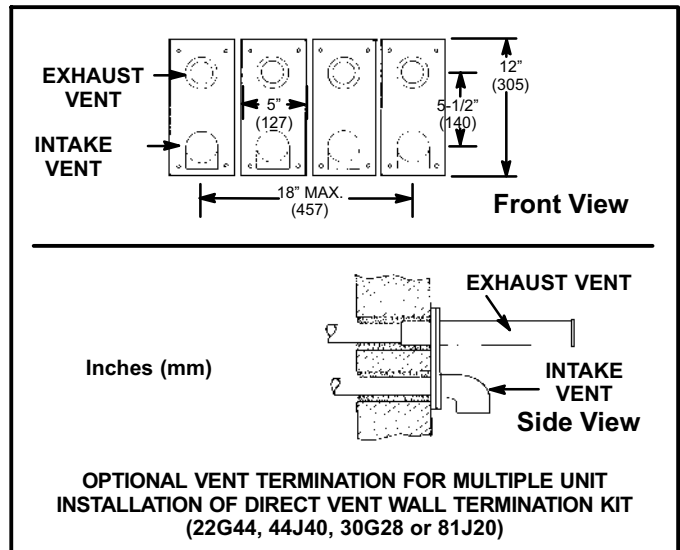

FIGURE 37
- 9 - Based on the recommendation of the manufacturer, a multiple furnace installation may use a group of up to four termination kits WTK assembled together horizontally, as shown in figure 37.